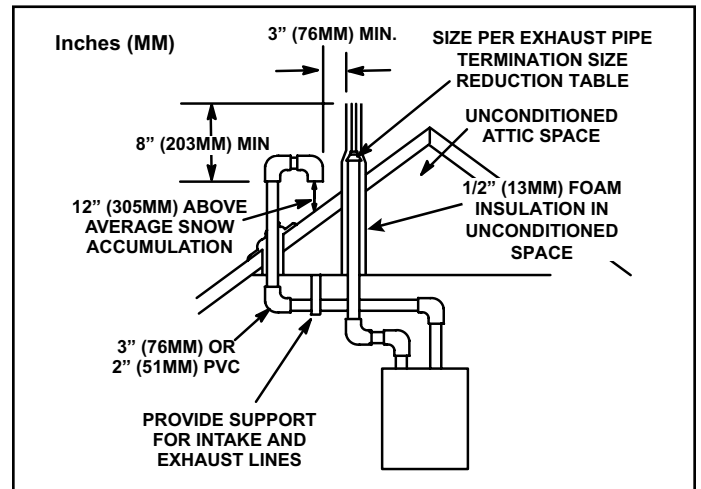

Figure 31. Direct Vent Roof Termination Kit (15F75 or 44J41)
Intake and exhaust pipes may be routed either horizontally through an outside wall or vertically through the roof. In attic or closet installations, vertical termination through the roof is preferred. Figure 31 through Figure 38 show typical terminations.
3. On roof terminations, the intake piping should terminate straight down using two 90° elbows (see Figure 31).